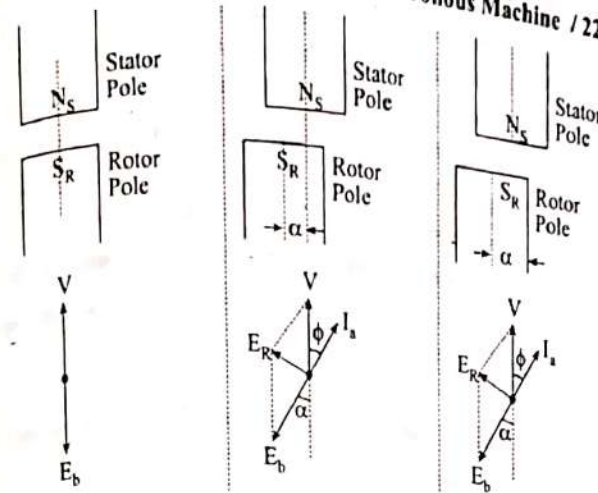

Fig. 1(a) (No-load, No-loss) Fig. 1(b) (No-load) Fig. 1(c) With-load
- At no-load, if there is no power loss in the motor, the stator poles and rotor poles will be along the same axis and phase difference between the applied voltage 'V' and the back emf 'E_b' (developed in the armature winding) will be exactly 180° see Fig. 1(a).
- Hence, the rotor pole lags by some angle 'α' with the stator pole and the phasor diagram will be as shown in Fig. 1(b).
- The angular displacement between the rotor and stator pole 'α' with the stator pole and the phasor diagram will be as shown in Fig. 1(b).